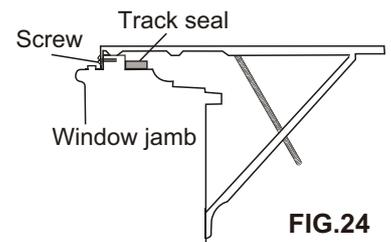

FIG.24
**27** Screw the platform assembly to the window jamb through the pilot hole you drilled in Step 25. Use a #8 x  $3/4$ " self-threading screw (FIG.24).